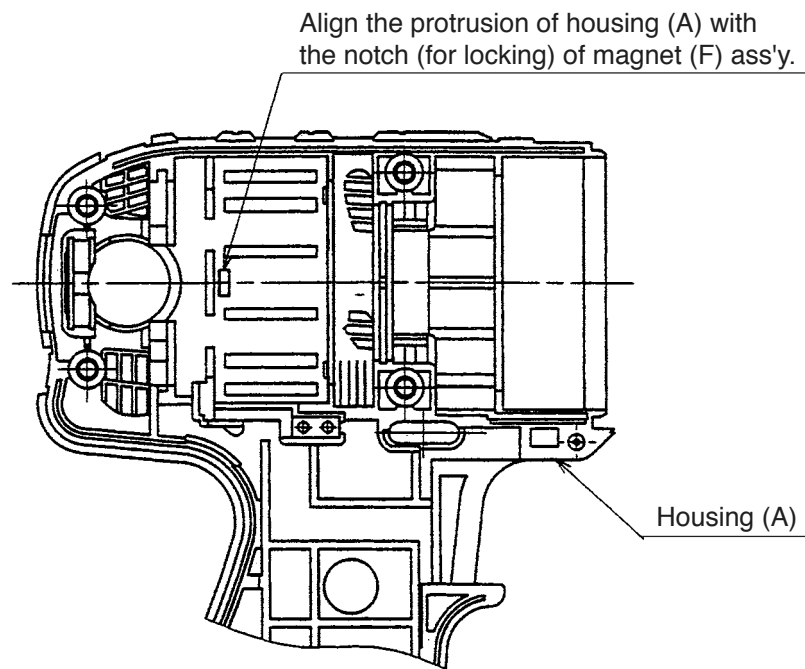

Fig. 16
(d) Mount a unit of Inner Cover (B) [25] <22> (including the Armature and Pinion Set [26] <23>), Magnet (F) Ass'y [28] <25> (including Dust Guard Fin (B) [29] <26> and Side Yoke (A) [27] <24>) and Brush Block [30] <27> into housing (A) (see Fig. 16). Pay attention to the following items.